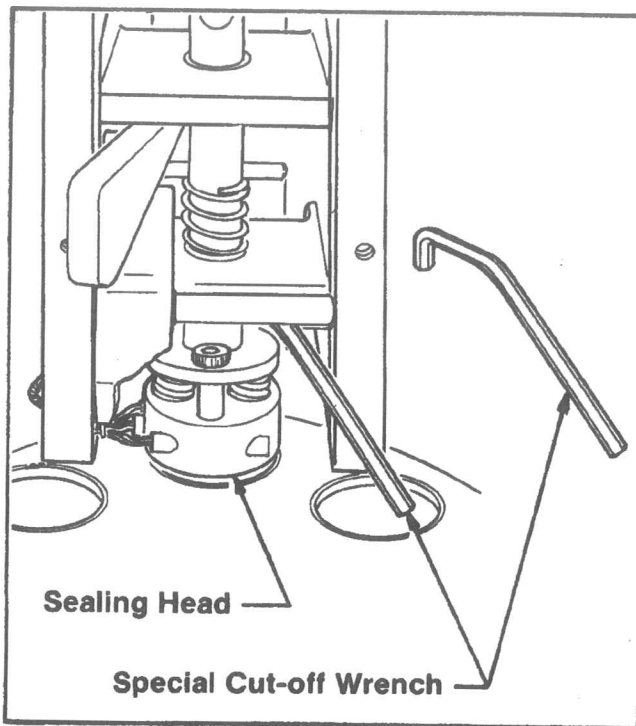

Fig. 15 - Using Special Cut-off Wrench
10. Loosen the rear stripper bolt using the Special cut-off wrench provided (see Fig. 15).....
12. Position new Compression Springs (part #958) Into the holes on top of the sealing head (see Fig. 15).